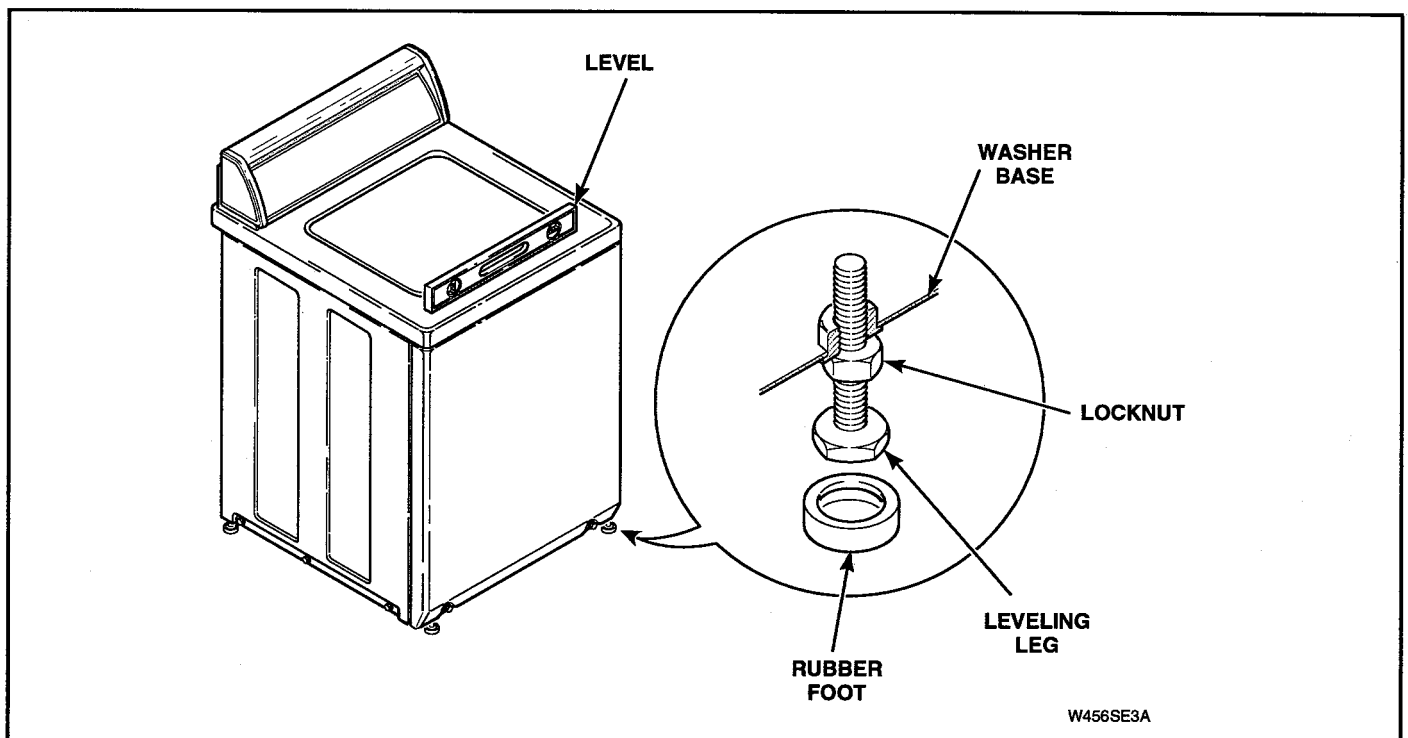

Figure 6-1
1. LEVELING LEGS (Refer to Figure 6-1)